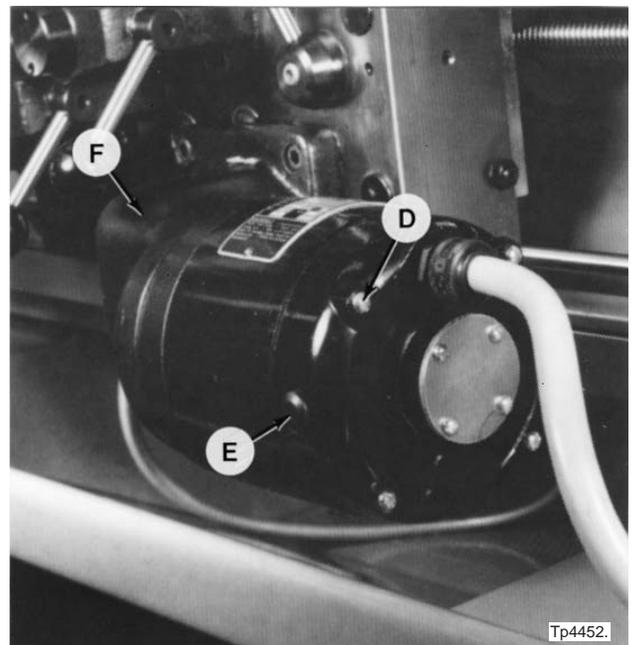

Figure 3.46 - Power Feed Drive
18. Remove four screws "D", Figure 3.46, and separate the power feed motor from worm wheel housing "F".
5. Remount the power feed motor to the power feed housing and install four screws "D", Figure 3.46 .
4. Remove two caps “E”, Figure 3.46 .